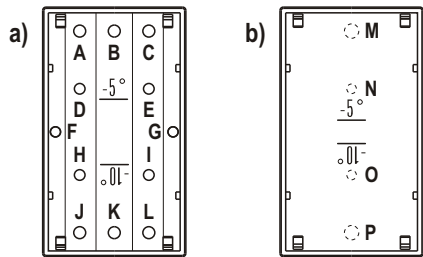

Fig. 3 Brackets: **a)** Corner/Side-mount; **b)** Backplate-mount
3. Select the appropriate bracket then remove the knockouts, as per Table 1 and Figure 3.
4. Pass the connection wires (not the insulation) through the wire entry (see Tab. 1 and Fig. 3).
5. Position the bracket as required (see indications on bracket) then, using the anchor screws, secure it in place (see Tab. 1 and Fig. 3).
Tab. 1 (Refer to Fig. 3) The first line shows the possible values of the vertical angles; the first column shows the possible values of the horizontal angles. In this column «right» indicates that the detector, seen from the front, is facing right with an angle of 20°; «left» indicates that the detector is facing left with an angle of 20° (-20°). The last column shows the bracket knockouts (mounting) and wires entry knockouts (entry). The overscored letters indicate **CONNECTIONS** Use shielded cable for the connection. Connect one end of the shield to the Control panel negative and leave the other end (detector end) disconnected. If the detector is a considerable distance from the Control panel, check for voltage drop (required voltage range: 9 V to 15 V).